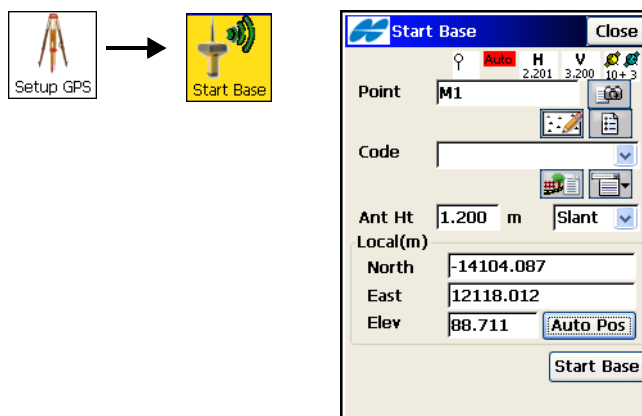

Figure 8-5. Start Base
- Select the **Setup GPS ▶ Start Base** icons. On the *Start Base* screen, set the following information, then tap **Start Base** to transmit coordinates to the receiver (Figure 8-5):